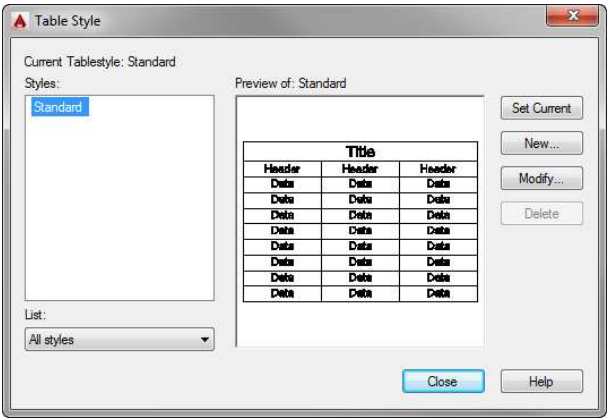

FIGURE 9.58: The Table Style dialog box
- 3. Click the Annotate tab. Then click the small arrow in the Tables panel's title bar to open the Table Style dialog box (see Figure 9.58).